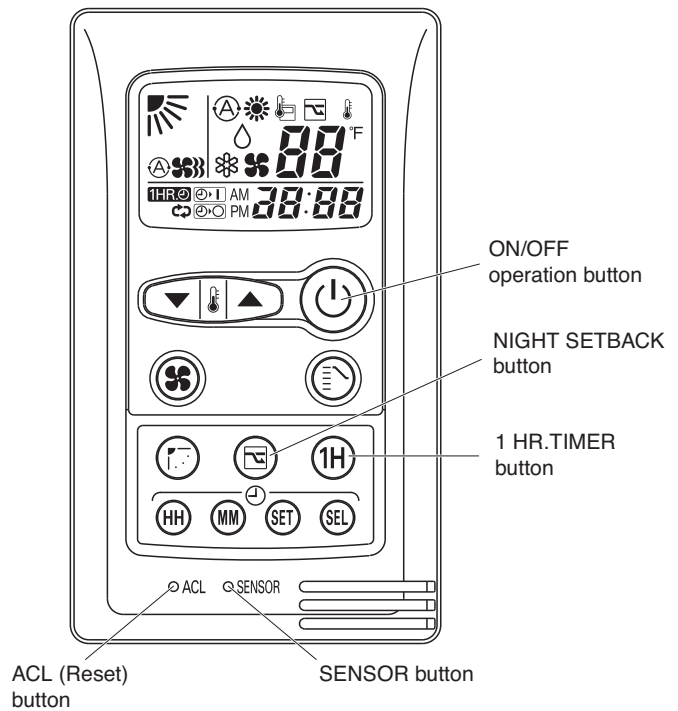

Fig. 11
- (1) Set the remote controller in Test Run mode. (Fig. 11)
- (2) Start Cooling mode test run by pressing the ON/OFF operation button of the remote controller. (Fig. 11)
- (3) Press the ON/OFF operation button of the remote controller again to stop the test run. (Fig. 11)
- (4) Finally press the ACL (Reset) button of the remote controller to release it from Test Run mode to return to normal mode. (Fig. 11)